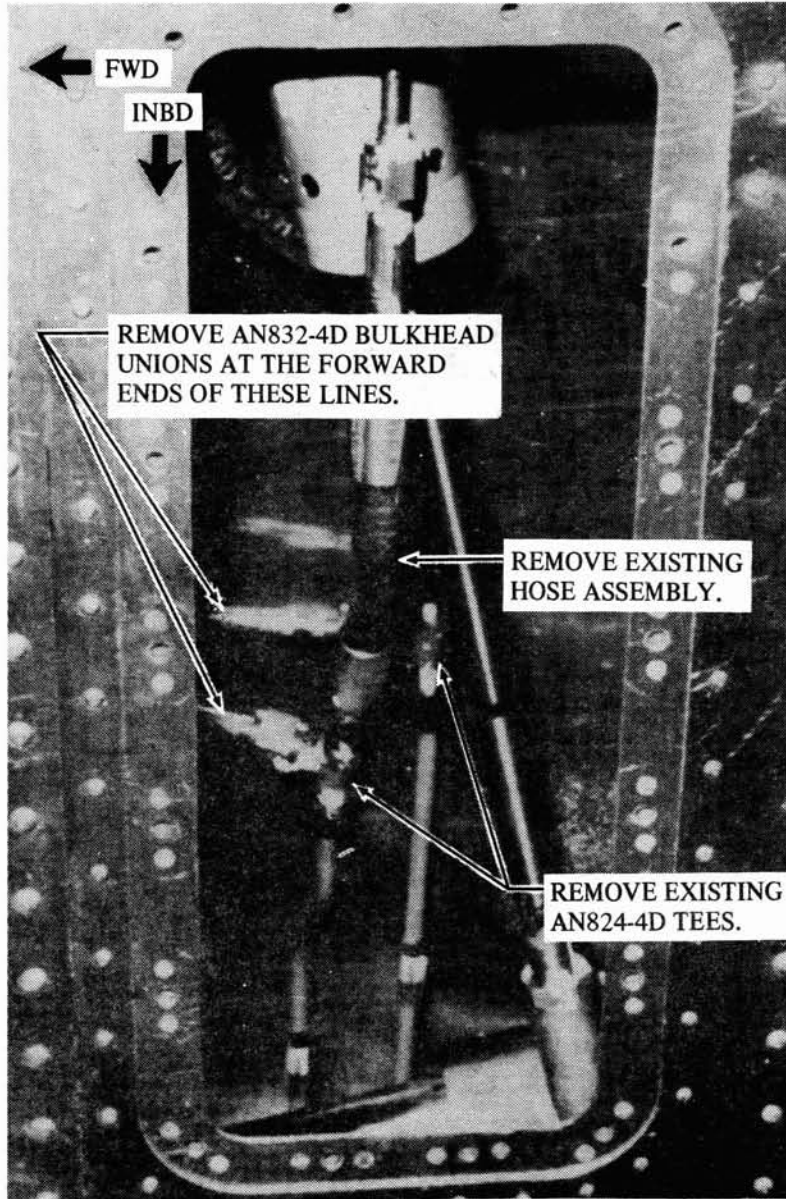

Figure 1. View Looking up at Bottom of Left Hand Wing before Rework
4. Locate the AN824-4D tee at the inboard end of each of the two landing gear hydraulic system hose assemblies. (See Figure 1.) Make certain that the hose assembly connected to the inboard-most AN824-4D tee can be identified later, then remove and discard the two AN824-4D tees.
6. Disconnect the other end of the hose assembly which was disconnected from the inboard-most AN824-4D tee in Step 4 and discard the hose assembly. (See Figure 1.)
7. Locate and remove the two AN832-4D bulkhead unions (Figure 1) in the wing spar web and replace with